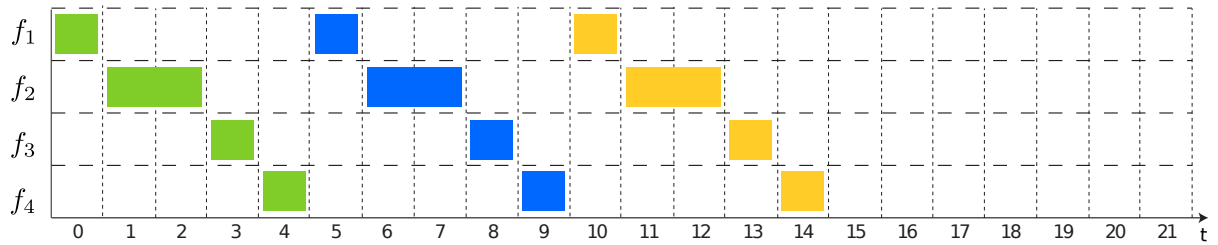

Figure 8: Pipelined Scheduling with resource constraints
- (d) (3 points) Now assume that, there are only **one** multiplier to compute f_2 and **one** adder to compute f_1, f_3 or f_4 available. First, depict a pipelined scheduling in Figure 8 under this resource constraint with a predefined minimal iteration interval $P = 5$. Then, indicate the latency L of the schedule. Draw **three** consecutive iterations, and mark different iterations clearly, e.g. with different colors, different textures, or different numbers.